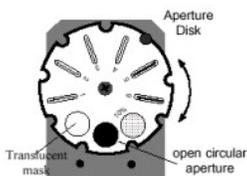

Figure 5: Use Translucent Mask
2. Mount the Light Sensor on the Aperture Bracket and plug the Light Sensor into the interface (See Fig.5).
5. Plug the Rotary Motion Sensor into the interface (see Fig 5).